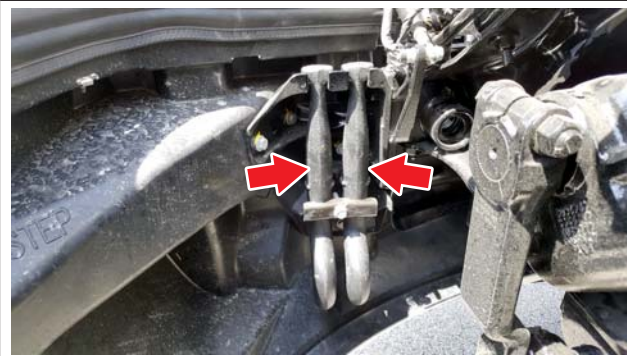

Fig. 21.5, Tow Hooks
2. Open the hood. Remove the tow hooks, located behind the driver's-side bumper. See Fig. 21.5. Close and latch the hood.